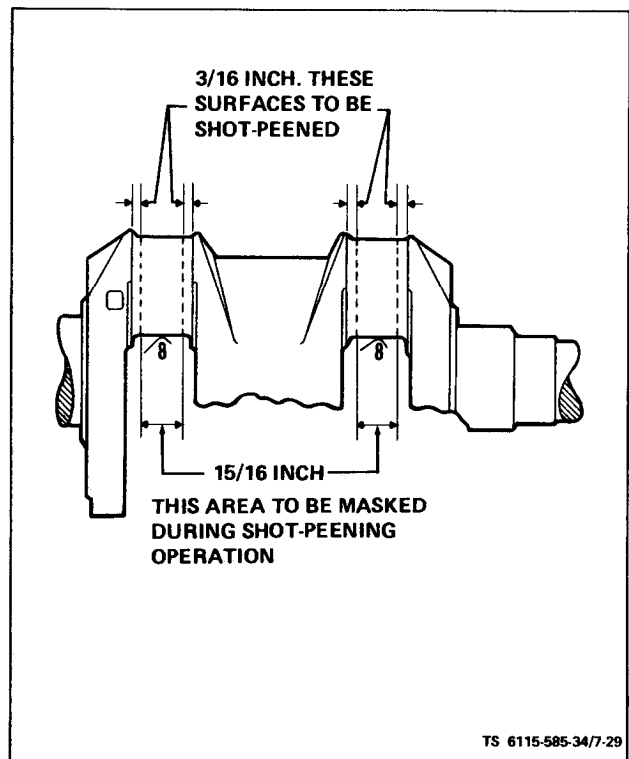

Figure 7-29. Crankshaft Peening
(1) Crankshaft. Clean crankshaft and blowout all oil passages. Check journals for out-of-round, taper, grooving or ridges. Pay particular attention to ridges or grooves on either side of oil hole areas. Unusual conditions here often point to previous neglect of oil changes. If journal dimensions are not within limits or journals are scored, metallize and regrind crankshaft to standards.
(2) Bearings. Replace bearings if clearances are greater than limits (see table 1-2), or if bearings are worn, grooved or broken.
(3) Rear Oil Seal. Inspect seal for wear or damage which might cause it to leak.
c. Rebuild Crankshaft. If crankshaft requires regrinding, metallize and regrind to standards. Special procedures must be observed when reworking diesel crankshafts. In addition to regrinding, the crankshaft must be shot-peened and super-finished. Failure to shot-peen the crankpin fillets is likely to cause early failure. When the shaft is reground, follow this data and figure 7-29 to shot-peen each crankpin fillet.
- (1) Almen gauge reading, 0.012-A.
- (2) Peen with 0.019 inch diameter cast steel shot.
- (3) Peen for 30-seconds on each crankpin fillet.